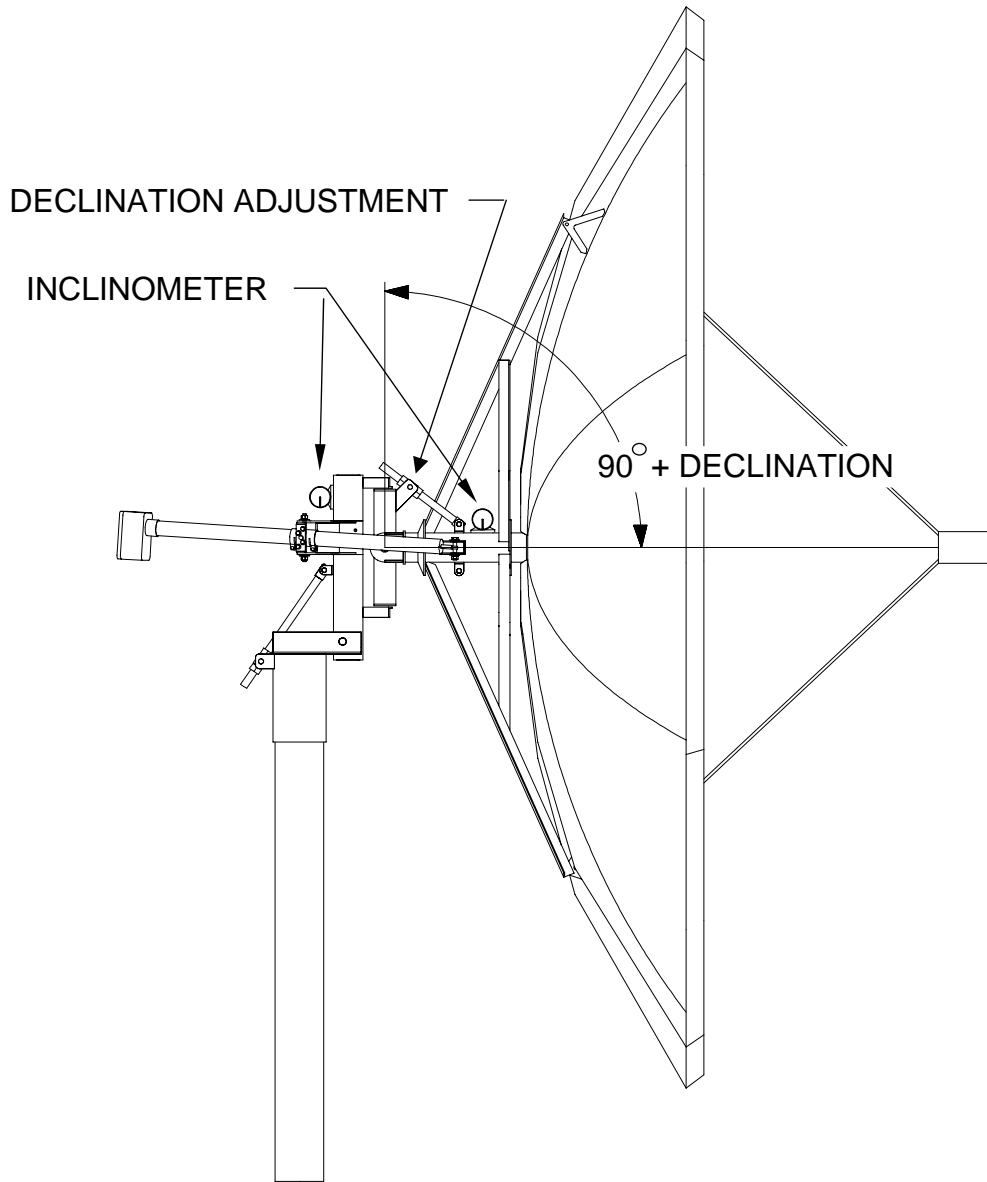

FIGURE 12
1. Set the polar axis angle to zero (due south) by sliding the actuator in the clamp. Place an inclinometer on the hub as shown in figure 12, then on the polar axis as shown. The difference between these two readings should be 90 degrees plus the declination angle. Table 5.1-1 gives the recommended declination angles as a function of site latitude. Adjust the declination rod until the correct setting is achieved, then tighten all declination hardware.